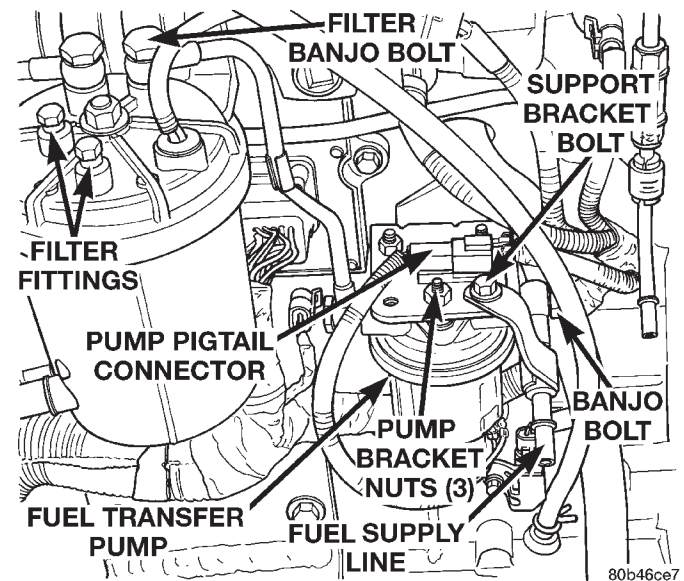

Fig. 82 Fuel Transfer Pump Location
The fuel transfer pump (fuel lift pump) is located on left side of engine, below and rearward of fuel filter (Fig. 82).
(1) Disconnect both negative battery cables at both batteries.
(2) Thoroughly clean area around transfer pump and fuel lines of any contamination.
(3) Remove starter motor. Refer to Starter in Group 8B for procedures.
(4) Place a drain pan below the pump.
(5) Disconnect fuel line quick-connect fitting at fuel supply line (Fig. 82) at rear of pump.
(6) Remove support bracket bolt at top of pump (Fig. 82).
(7) Remove banjo bolts at front and rear of pump (Fig. 82).
(8) Disconnect pigtail harness electrical connector from main engine wiring harness (Fig. 82).
(9) Remove three pump bracket nuts (Fig. 82) and remove pump from vehicle.
(1) Install new gaskets to fuel supply line/support bracket and banjo bolt at rear of pump. Install line and banjo bolt to pump. **Do not** tighten banjo bolt at this time.
(2) Install new gaskets to fuel line and banjo bolt at front of pump.
(3) Position 3 pump studs into pump mounting bracket and install 3 nuts. **Do not** tighten nuts at this time.
(4) Install support bracket bolt (Fig. 82). **Do not** tighten bolt at this time.
(5) Tighten 3 pump nuts to 12 N·m (9 ft. lbs.) torque.
(6) Tighten both banjo bolts to 24 N·m (18 ft. lbs.) torque.
(7) Tighten support bracket bolt 12 N·m (9 ft. lbs.) torque.
(8) Connect pigtail harness electrical connector to main engine wiring harness (Fig. 82).